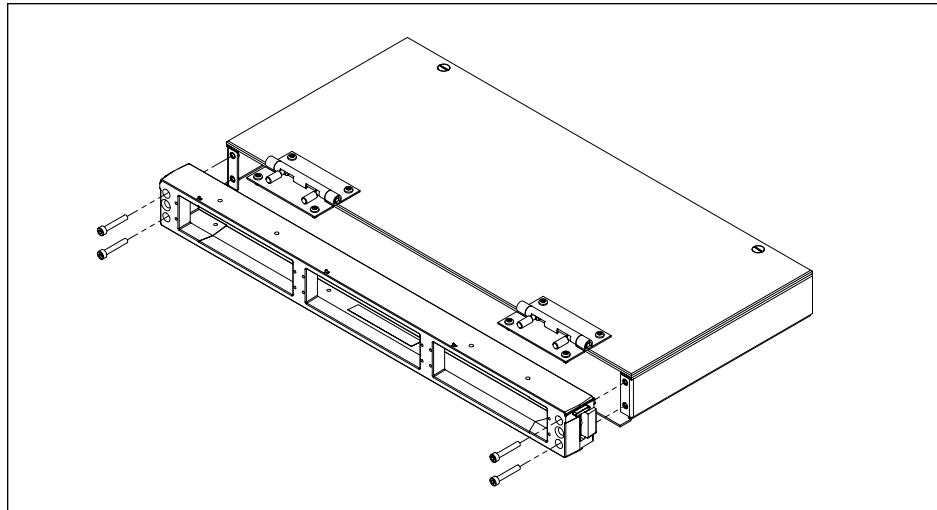

Figure 13-A. Use the 3mm Allen wrench to tighten the front screws.
1. Attach the provided M4 screws as shown in **Figure 13-A**.
2. Secure the bottom of the enclosure to the bottom of the ITA with the four M3 screws. See **Figure 13-B**.